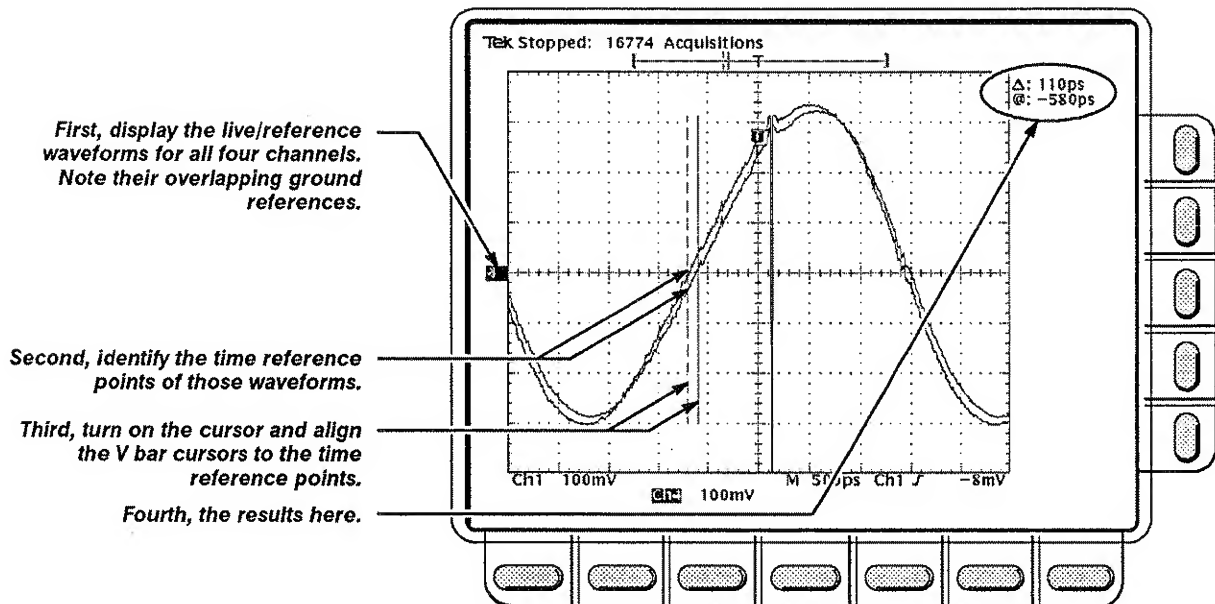

Figure A-11: Measurement of Channel Delay
- Locate the point on the rising edge of the left-most waveform where it crosses the center horizontal graticule line. This is the *time reference point* for this waveform. Note the corresponding *time reference point* for right-most waveform. See Figure A-11.
- Rotate the General Purpose knob to align one cursor to the *time reference point* of the left-most waveform edge and the other cursor to the *time reference point* of the right-most waveform edge. (Press **TOGGLE** to switch between the two cursors.) See Figure A-11.